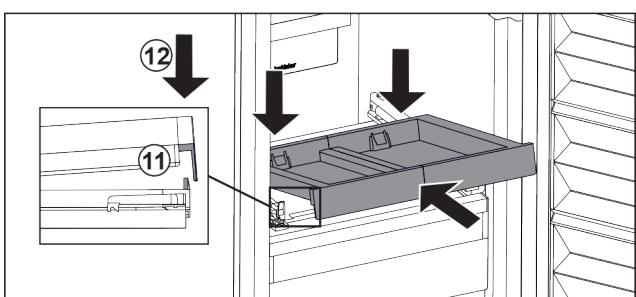

Fig. 127
- ▶ Slide in at an angle. Make sure that the stop is behind the lug on both sides. Fig. 127 (11)
- ▶ Lower the pull-out board at the front. Fig. 127 (12)